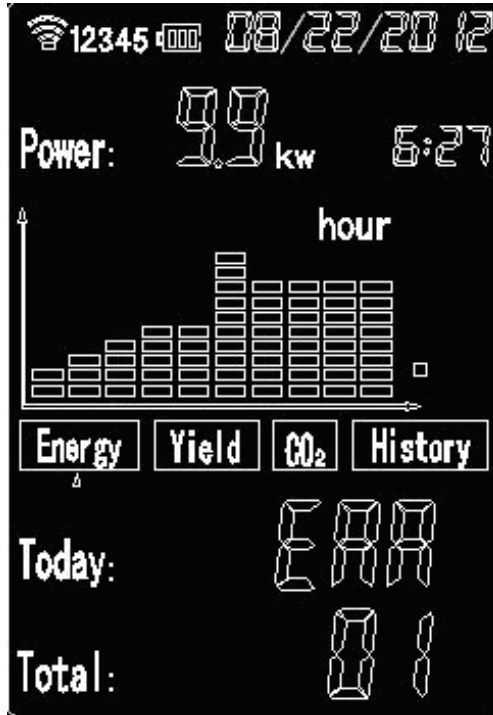

Figure 8
5.1.8 Error alarm function: If the PV system has any problem, the error code will be shown on the display, the Error code and the related error information are shown in the Error information table. As to the isolation problem(also named earth faulty error), the warning buzzer will buzz every 10 minutes. The Receiver Unit will display the “ERR 01” like Figure 8.